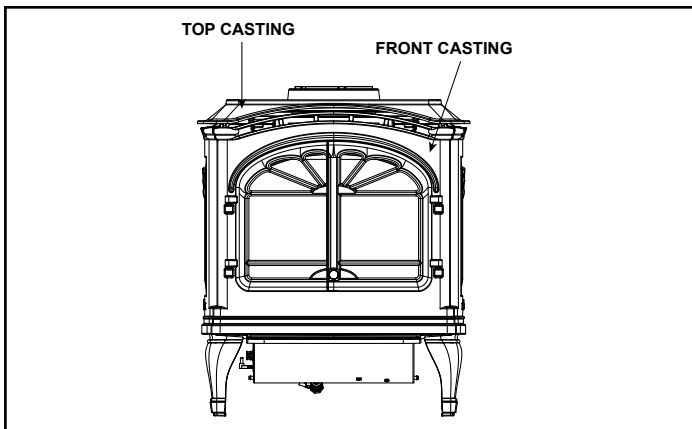

Figure 10. Remove Casting
9. Remove front casting, if not previously removed, by grasping it at the top and lifting up. The top casting may need to be lifted slightly to accommodate removal of the front casting. See Figure 10.
Note: The TIARII-IPI is shown in Figures 10, 11, 12, and 13. The TOPAZ-IPI is assembled in a similar manner.